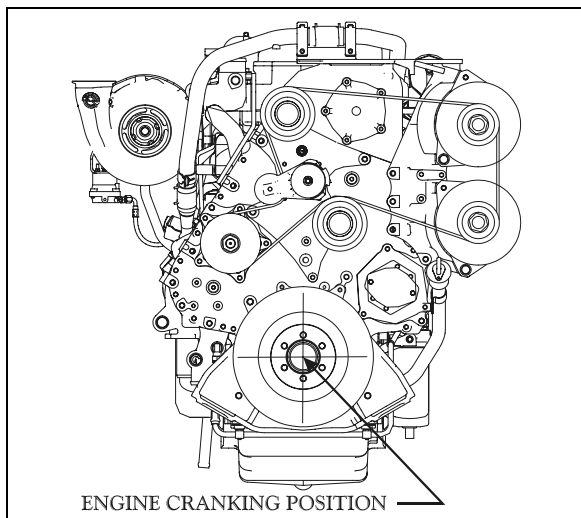

FIGURE 10: ENGINE CRANKING POSITION
*Remove the access plug from the flywheel housing on the R.H. side below starter. From access plug, remove the 12 converter-to-flexible plate attaching screws. Cranking the engine to gain access to the attaching screws may be done by turning the crankshaft pulley using a suitable adapter (fig. 10).*